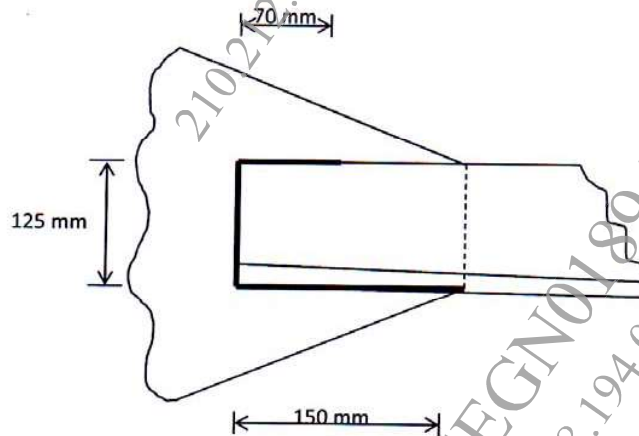

Figure 1
- b) Determine tensile load carrying capacity of ISA 125×75×8 section connected to gusset plate with its longer leg. The details of welding are as shown in figure 1. [7]